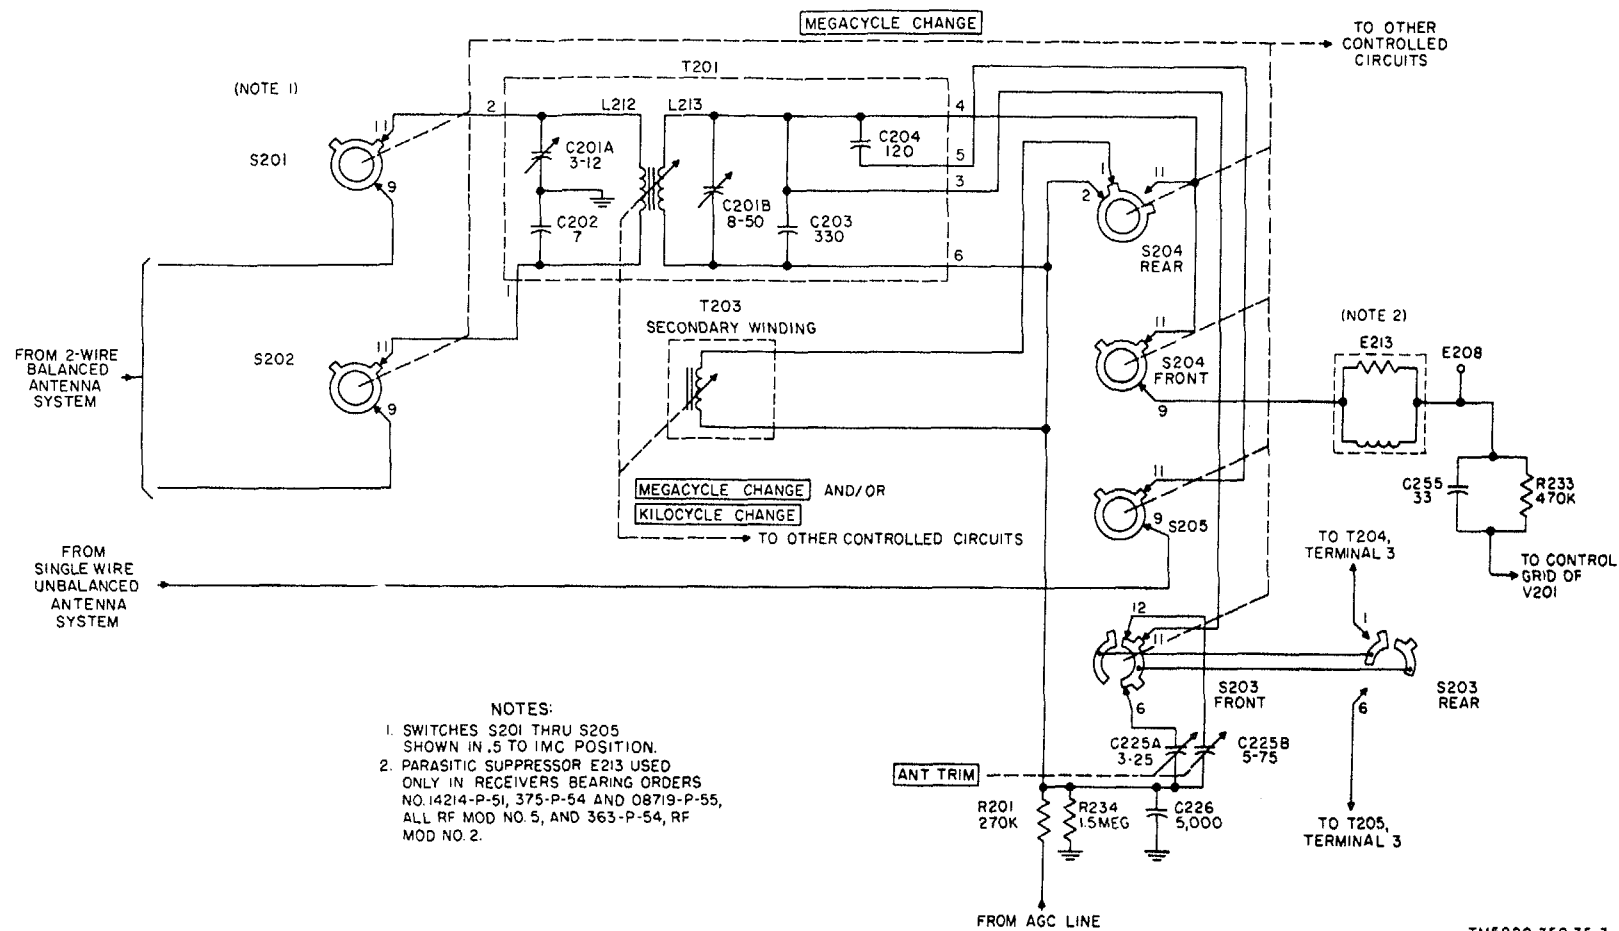

Figure 2. RF band switches S201 through S205, simplified schematic diagram.
c. Figure 2 shows rf band switches S201 through S205 in the 0.5- to 1-mc positions. This corresponds to frequency indicator setting of 00. The two-wire antenna signals are fed through S201 and S202 to the coil corresponding to the frequency indicator setting. The two-wire antenna is balanced across primary L212 of antenna transformer T201 by series-connected capacitors C201A and C202. Capacitor C201A permits adjustment of the balance. When a
d. Capacitor C201B is used during alignment. ANT TRIM capacitor C225 is used to obtain maximum signal transfer from the antenna to the input of the receiver. Capacitor C203 is also connected across L213 in parallel with C201B and C225. This provides the additional capacitance necessary to tune L213 to resonance at the correct frequency. The individual sections of C225 are switched by S203 front and rear (fig. 2) from parallel to series or out of the circuit, depending on the frequency to which the receiver is tuned. The chart in paragraph 30e lists the details of the switching scheme.
7. Rf Amplifier V201 (fig. 2 and 3)